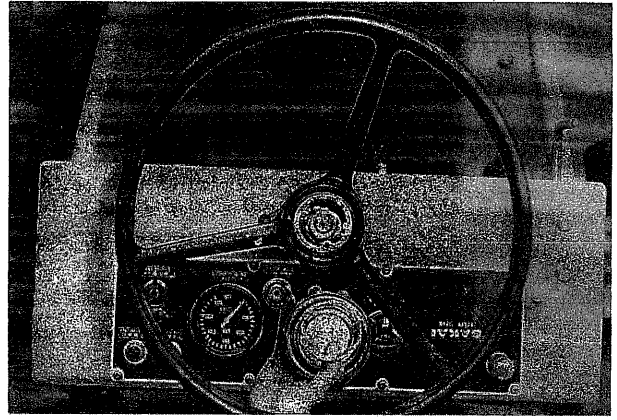

Fig. 120
- (1) Take off cap (2) and retainer (3) by hand. Take out cap (4) contact plate (5) and spring (6) (Fig. 119, Fig. 120)